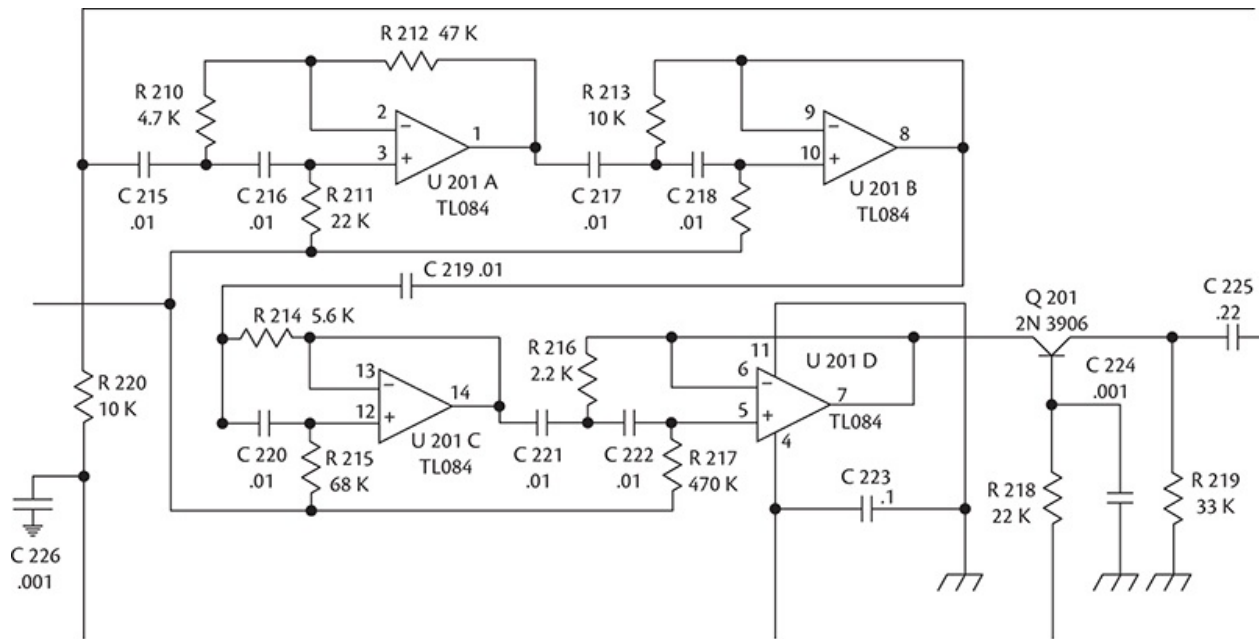

FIGURE 8-2 Section of a schematic diagram.
- *Schematic diagram*. This shows all the components and interconnections but does not indicate their purposes by specifying sections or overall structure. This is the street-level map (Figure 8-2).
Every part normally has its own call number, but multisection integrated circuits (ICs) such as op amps may be shown with each section as a separate device, even though they're really in one package. In Figure 8-2, the TL084 chip has four sections, each labeled A, B, C or D. On another schematic, the same component could be drawn as one rectangle resembling the shape of the real thing, with all four sections inside. In that case, each section's triangular op-amp symbol might be drawn inside the little box, but you can't count on that. Presenting the part as separate sections helps keep the signal flow clearer and is the preferred method.